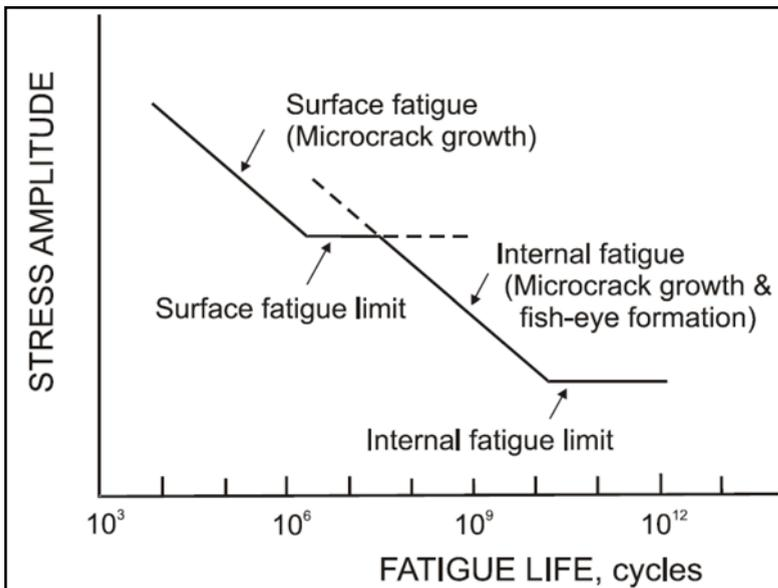

Figure 13 Schematic illustration of the two-step S-N curve (Ref. 14).
**Stepwise S-N curve.** All the results and theoretical considerations draw a conclusion that there is a kind of “double” S-N curve for the tooth root bending fatigue of shot peened, case-hardened gears; Figure 13 offers a schematic illustration of the stepwise S-N curve. In the literature it is also often called “two-fold” S-N curve. The “classical” S-N curve for tooth root bending strength is limited by crack initiation on the surface and